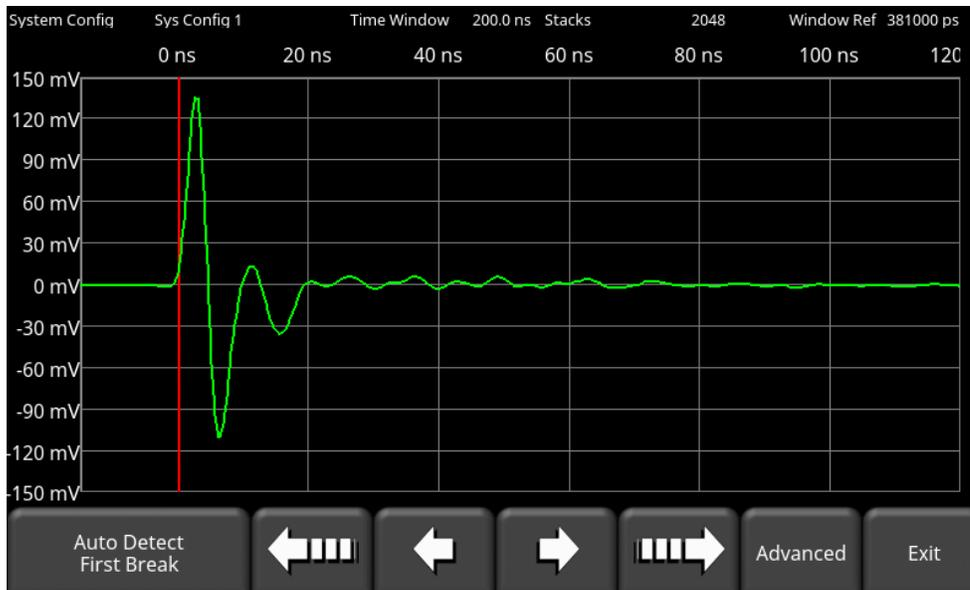

Figure 5-31: First Break at the correct position
- Press **Auto Detect First Break** for the system to initiate an automatic search to place the First Break at the correct position (Figure 5-31). Auto is generally the preferred method of setting the First Break, however if you are using high frequency transducers, the antenna separation is large, or there is a large amount of external noise then this automatic adjustment may fail. In this case, try raising the antennas or transducers slightly off the ground to allow a strong air wave to travel between the units. If you are still not able to find the First Break, use the arrows to manually set it as explained below.